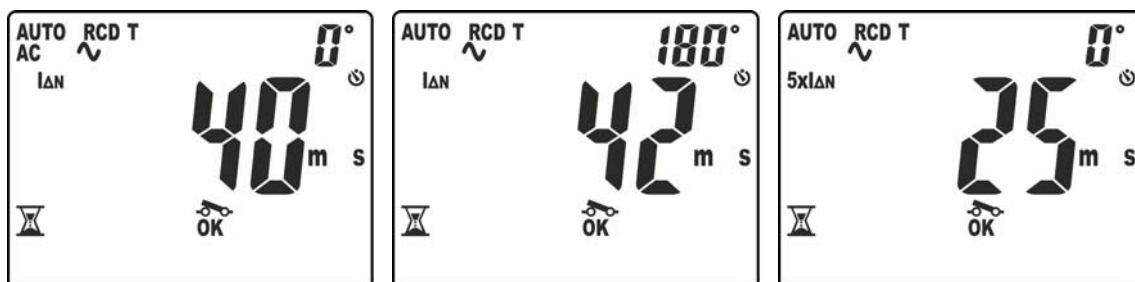

Fig. 32: Tripping time in AUTO mode – Screen 1
10. The first test carried out is the one with test current $I_{\Delta n}$ and polarity 0° . The result of partial measurement is shown on the display with indication "OK" or "NOT OK" (see Fig. 32 – left side). Symbol "⚡" flashing indicates that the RCD must be reset.
11. The second test carried out is the one with test current $I_{\Delta n}$ and polarity 180° . The result of partial measurement is shown on the display with indication "OK" or "NOT OK" (see Fig. 32 – middle). Symbol "⚡" flashing indicates that the RCD must be reset.
12. The third test carried out is the one with test current $5xI_{\Delta n}$ and polarity 0° . The result of partial measurement is shown on the display with indication "OK" or "NOT OK" (see Fig. 32 – right side). Symbol "⚡" flashing indicates that the RCD must be reset.